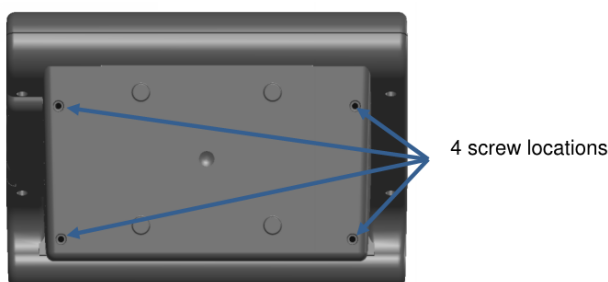

Figure 55 Battery Cover Retaining Screws
- 2) Remove the 4 screws holding the battery cover to the monitor (refer to Figure 55).